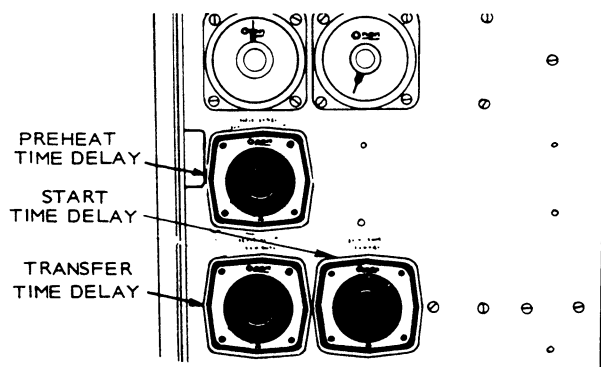

FIGURE 23. START AND TRANSFER TIME DELAY RELAYS
2. Turn the knob on the time delay clockwise to increase delay time, counterclockwise to decrease the delay time. See Figure 23.